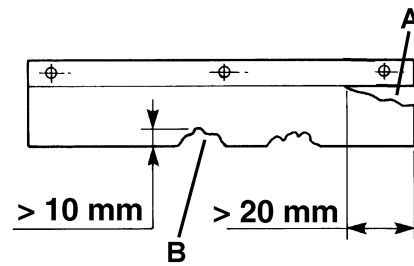

Figure 15
3. Check the side skirts (13 and 14) for integrity. Replace the skirts when they have cuts (A, Fig. 15) larger than 20 mm or cracks/tears (B) larger than 10 mm (for skirt replacement, refer to the Service Manual).
15. Replace the skirts when they have cuts (A, Fig. 15) larger than 20 mm or cracks/tears (B) larger than 10 mm (for skirt replacement, refer to the Service Manual).